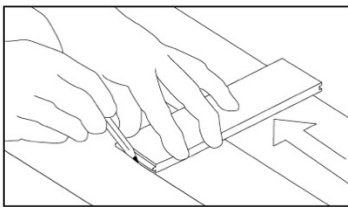

Figure 13
- If the wall is not straight, scribe the first board (Figure 13) as necessary to maintain alignment with the chalk line. Install a sacrificial board (with a straight edge) using the appropriate fasteners for the subfloor. If a board is used for the starter row, make certain the groove faces the wall.
- Align the first row with the wall using wedges to maintain a ½" (13 mm) expansion in place and to stabilize the product. If the wall is not straight, scribe the first board (Figure 13) as necessary to maintain alignment with the chalk line.